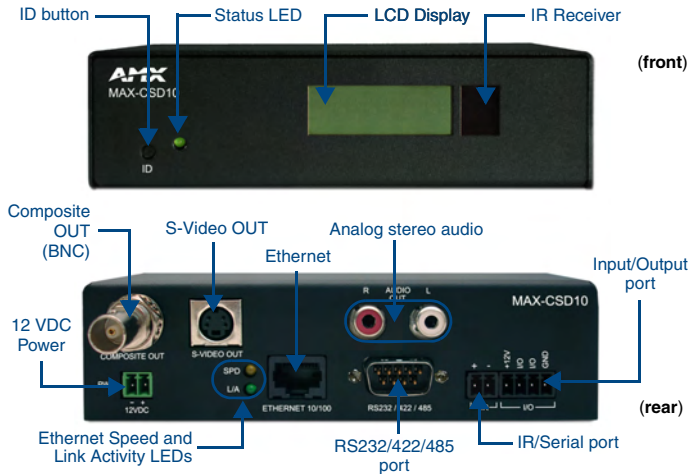

FIG. 1 MAX-CSD10 Video Decoder (front and rear views)
The rear Ethernet port supports IEEE 802.3af Power-over-Ethernet (POE) which enables DC power to be supplied to this device over the unused pairs of wires on the connected Ethernet cable. FIG. 1 shows the front and rear panel views.
Use an external power supply (see *Power Requirements*) to provide power to the MAX-CSD10 through the rear 2-pin 3.5 mm mini-Phoenix connector (FIG. 1). The incoming PWR and GND cable from the power supply must be connected to the corresponding locations within the PWR connector.
- After the unit has successfully obtained an IP Address from the DHCP Server, it then displays this obtained DHCP Address across the front LCD (FIG. 1).